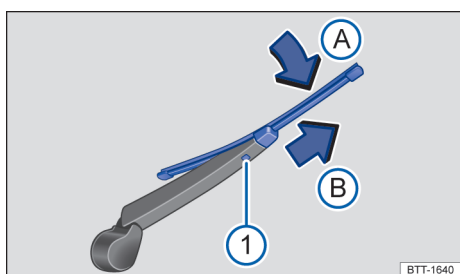

Fig. 123 Changing the wiper blade for the rear window
- Press and hold the release button → Fig. 123 ①.
- Tilt the wiper blade in the direction of the wiper arm → Fig. 123 (the arrow (A)) and pull it off in the direction of the arrow (B) at the same time. You may need to use some force to do this.
- Connect a **new wiper blade of the same length and design** onto the wiper arm against the direction of the arrow → Fig. 123 (B). Push it on until it engages. The wiper blade must be in folded-down position to do this → Fig. 123 (arrow (A)).